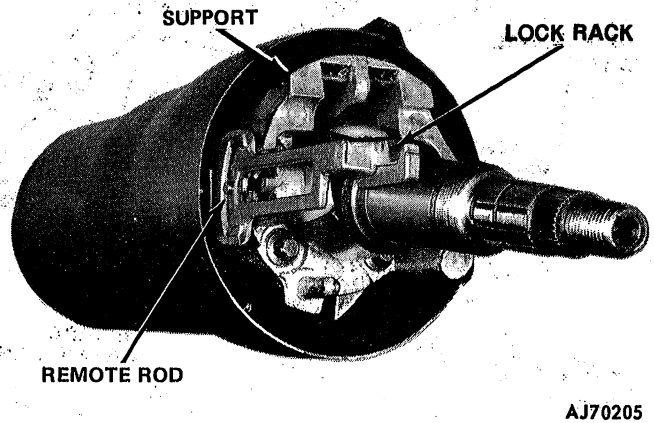

Fig. 2J-45 Lock Rack and Remote Rod Position
- (13) Install shift gate in support and install shift gate attaching screws.
- (14) Install support in shift bowl. Align V-notch in support with notch in column jacket (located at 9 o'clock position).
- (15) Install support attaching screws.
- (16) Assemble steering shaft.
- (17) Install steering shaft through upper end of column.
- (18) Install replacement ball bearings in housing if removed. Be sure there are 14 balls in each bearing.
- (19) Install tilt handle.
- (20) Insert ignition switch remote rod between shift-bowl and column jacket, and into guide channel in left side of support.
- (21) Engage lock rack in remote rod (fig. 2J-45).